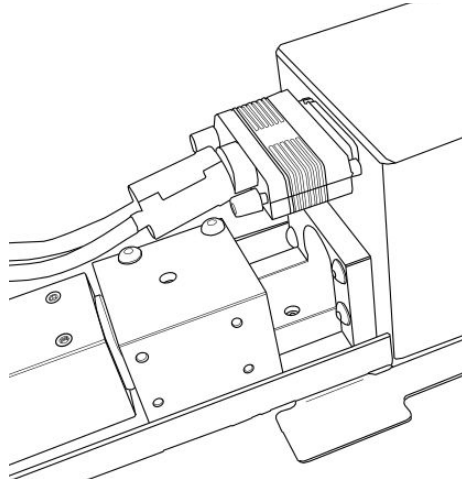

Fig. 4
1. Grab Cable 1 and connect the VGA cable onto the port on the back of the scan head( see Fig 4).